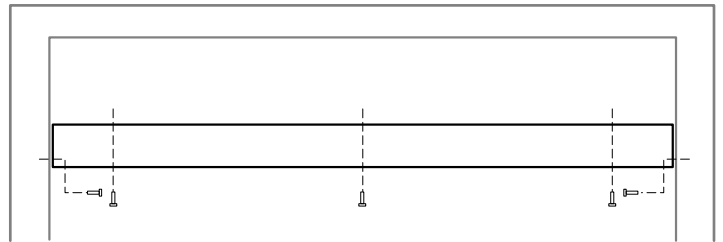

Figure 15 - Installing Canopy
A canopy is furnished with each firebox and **MUST** be installed for safe operation. *See Figure 15.*
1. Remove the three (3) screws from the top front frame assembly. Also remove the two (2) screws on the side frames. *See Figure 15.*